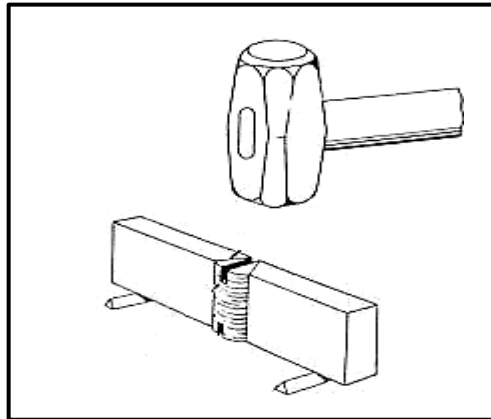

FIGURE 4.12
- (1)
4.12 Identify the type of test carried out in FIGURE 4.12 below.